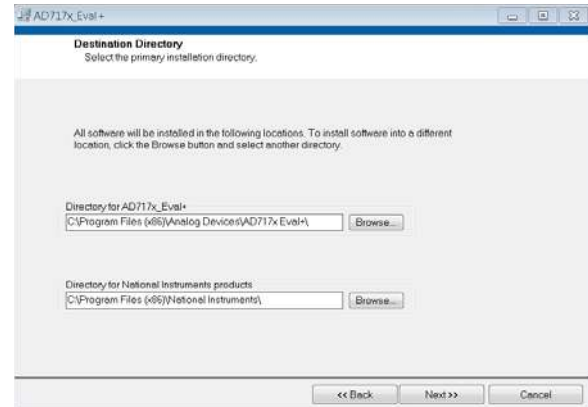

Figure 7. **AD717x Eval+**, Selecting the Location for Software Installation
4. Select a location to install the software and click **Next**. Figure 7 shows the default locations displayed when the dialogue box opens. To select another location, click **Browse**.